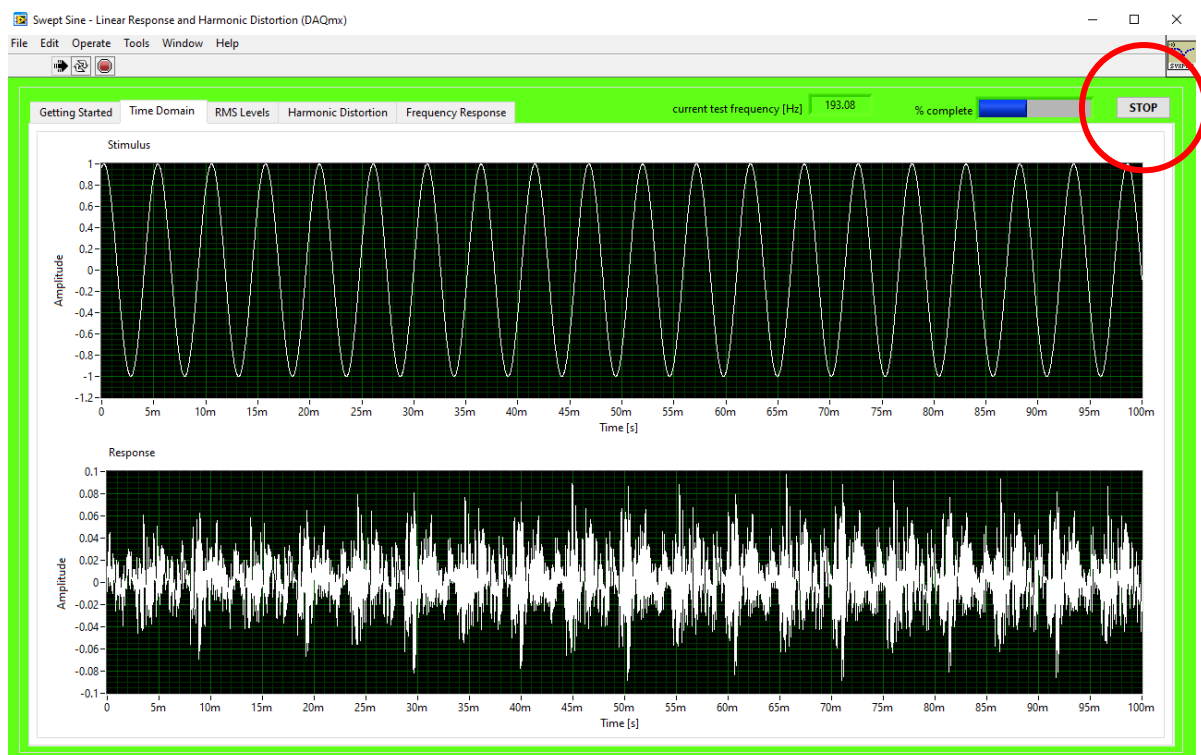

Fig. 10. A typical Time-Amplitude results of "Time Domain" tab
7. Click each tab to view the response of the set parameter, as shown in Figure 10 for "Time Domain" tab.
8. Click "Stop" button (circled in Figure 10) to end the experiment.